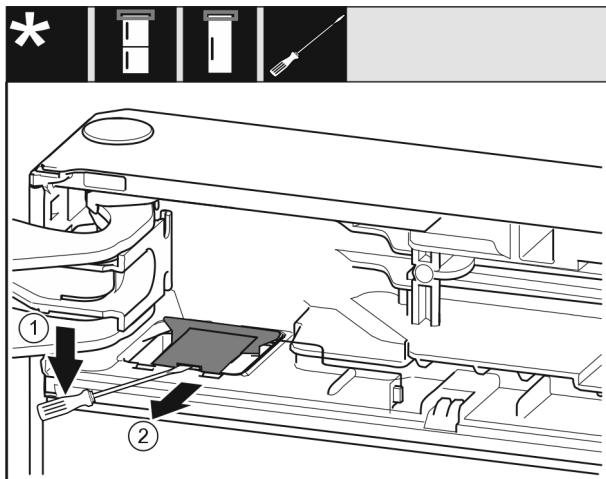

Fig. 14
- Use a flat-blade screwdriver to disengage the cover Fig. 14 (1).
- Remove the cover Fig. 14 (2).